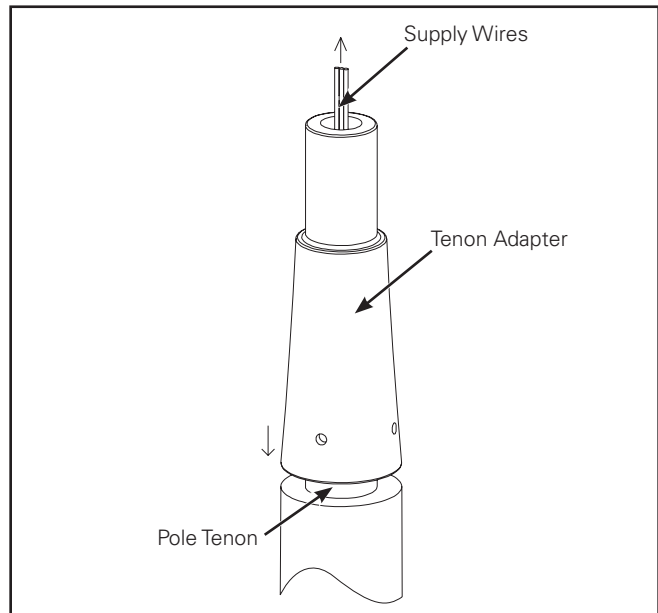

Figure 16.
- Slip fit the tenon adapter onto post's tenon. (Figure 16.)